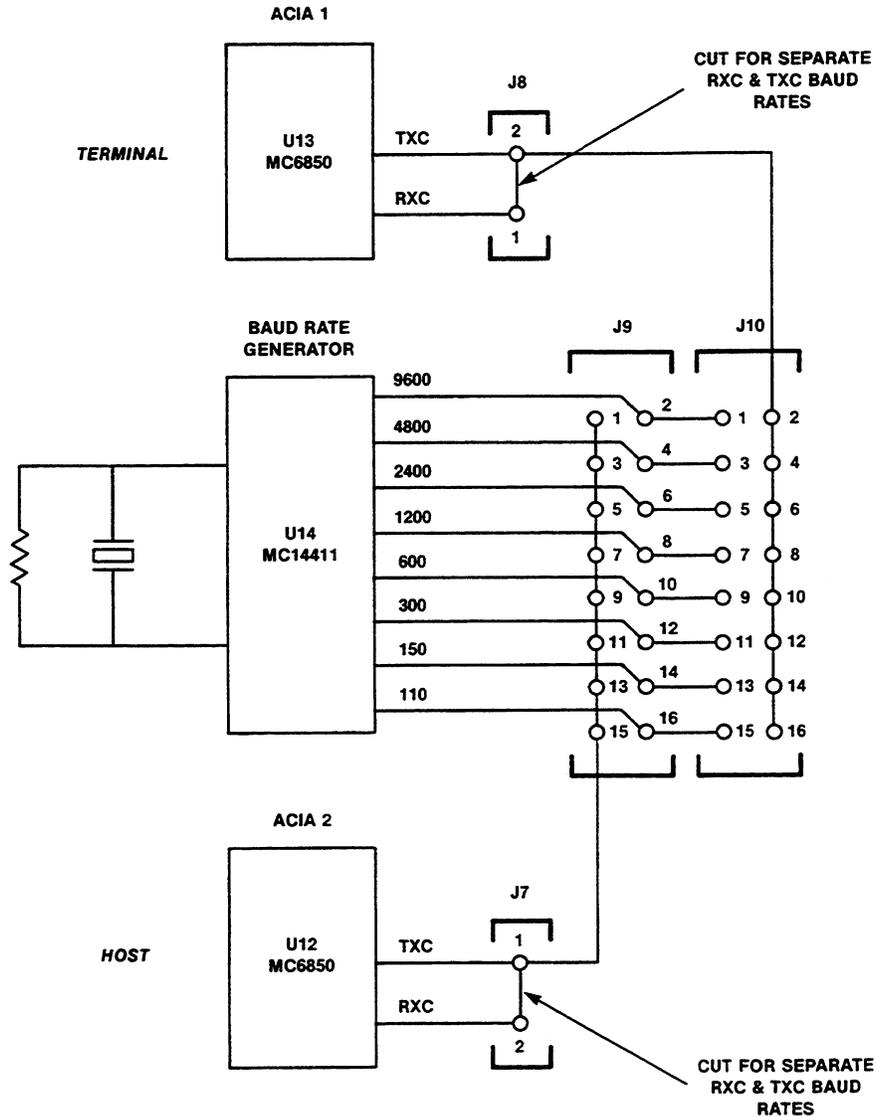
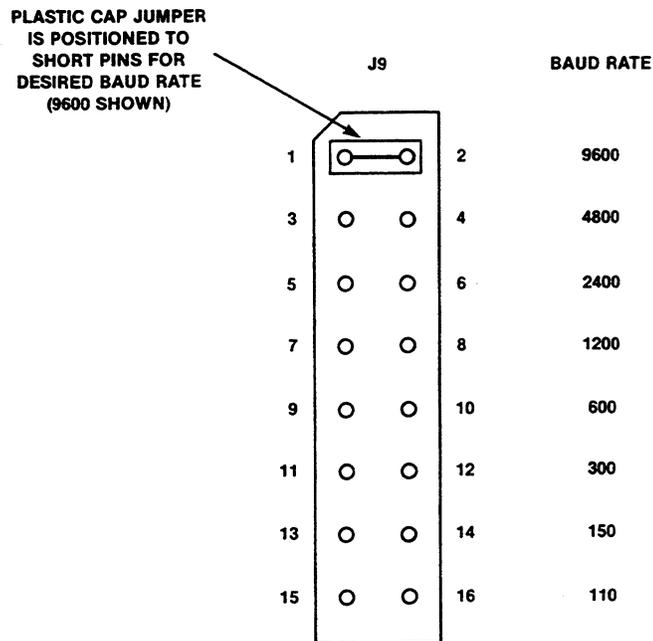

FIGURE 2-4. Interconnection Diagram for Baud Rate Selection
FIGURE 2-12. Host Baud Rate Select Jumper (J9)
2.2.4.1 Normal Operation - Transmitting and Receiving at the Same Baud Rate. Normally, the terminal transmits and receives at the same baud rate. Although the terminal Port 1 can be configured to transmit and receive at different rates, the board as supplied uses a single common baud rate for the port. The host interface Port 2 has similar attributes. The interconnection circuit is shown in Figure 2-4.
2.2.4.2 Special Operation - Transmitting and Receiving at Different Baud Rates. The MEX68KECB is wired with the transmit clock (TXC) and Receive clock (RXC) of each ACIA (refer to Figure 2-4) tied together and then jumpered to the selected baud rate. To provide different baud rates, the connection between TXC and RXC must be cut and individual baud rates connected to each. Perform the following steps to select separate transmit and receive baud rates for the terminal:
2.5.2.1 Selecting Host Baud Rate. As with the terminal baud rate, the host serial port is wired to transmit and receive at the same baud rate. The desired baud rate is selected via a plastic cap jumper positioned on header J9, as shown in Figure 2-12. Also reference Figure 2-4 for the interconnection diagram and Table 2-1 for the selected baud rate.
Again similar to the terminal port, to provide different baud rates, the connection between TXC and RXC for ACIA2 must be cut (reference Figure 2-4) and individual baud rates connected to each. Perform the following steps to select separate transmit and receive baud rates for the host port: